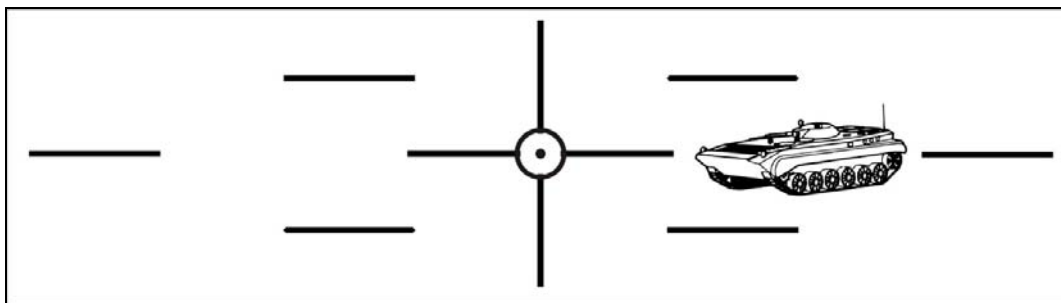

Figure 6-27. Gap lead applied to a moving BMP.
(1) When using AP ammunition, the gunner uses a 5-mil lead from the center mass of the target. This rule is called the "gap lead." To apply gap lead, the gunner centers the target in the gap of the gun reticle. Figure 6-27 shows a BMP given a gap lead. The lead lines are shown as 2.5 mils long, except for the lead lines around the 1-mil circle, which are 2 mils long.